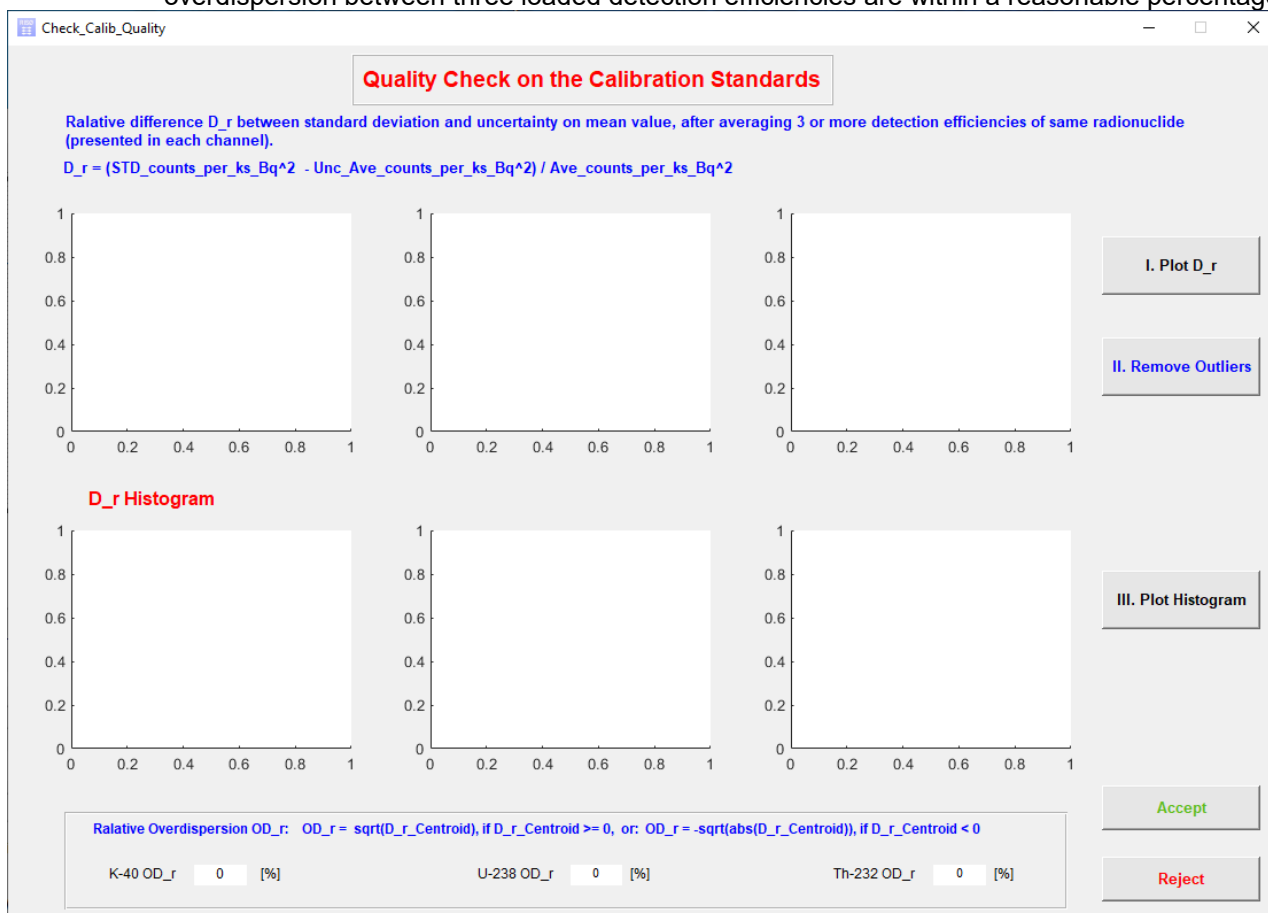

Figure 3.2: "Check_Calib_Quality" window
- After you select and load detection efficiency calibration data files, there will be a pop-up window "Check_Calib_Quality" for you to check their quality, as shown in Figure 3.2. This is to ensure quality of the measurement on the calibration standards, and to ensure you have loaded the proper data files, before carrying out an analysis on your samples. This is done by checking if the overdispersion between three loaded detection efficiencies are within a reasonable percentage.